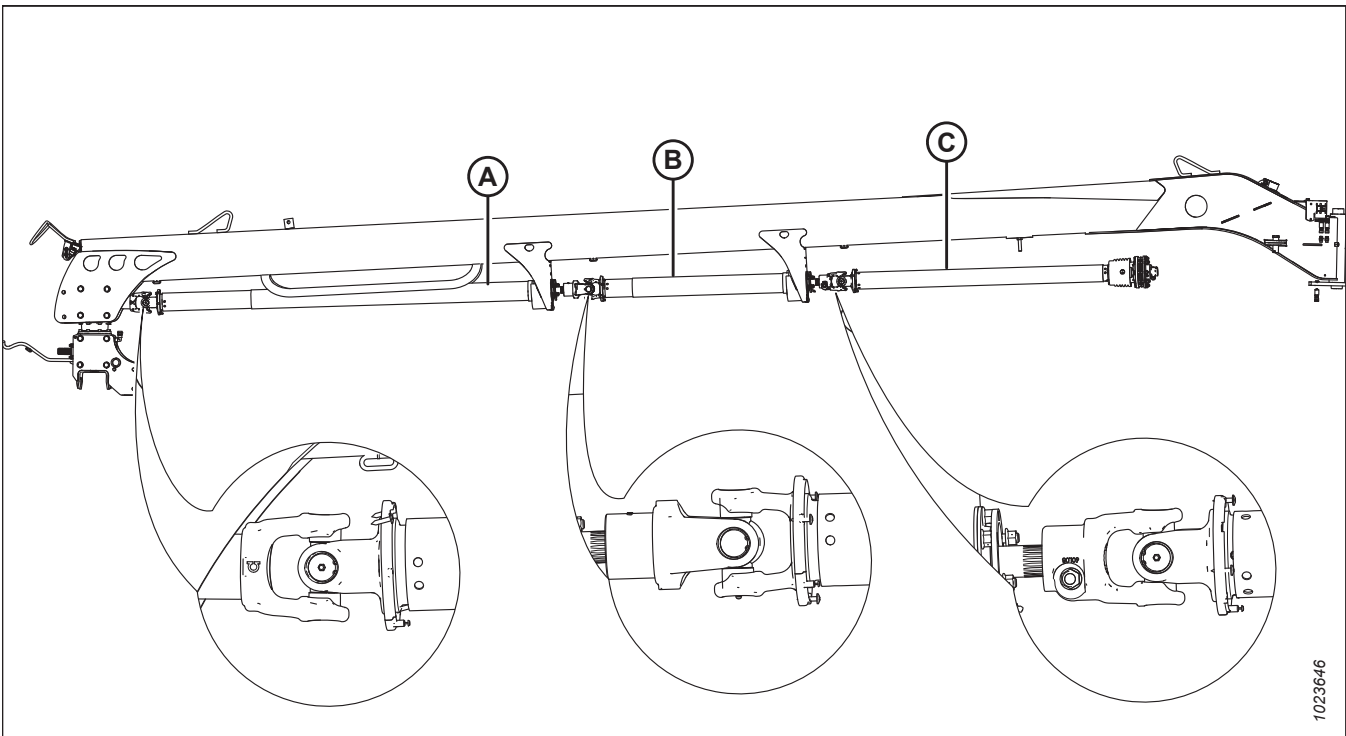

Figure 4.184: R116 Rotary Disc Pull-Type Driveline Phasing
On the R116 Rotary Disc Pull-Type (refer to Figure 4.184, page 244), the U-joint on middle driveline (B) must be aligned 90° to the U-joints on front driveline (A) and clutch driveline (C).